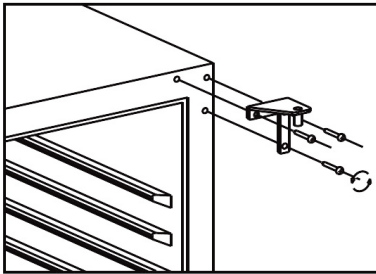

fig. 5.3
- Dismount the right top hinge and save it for later use. See fig. 5.3